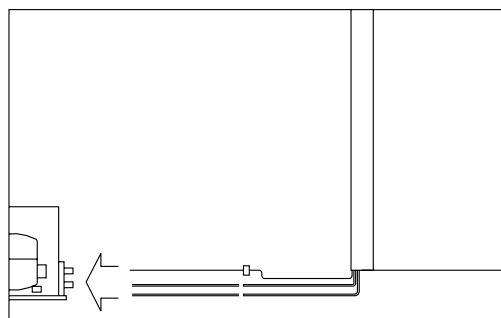

Fig.7
- position the condensing unit ( Fig. 7 )